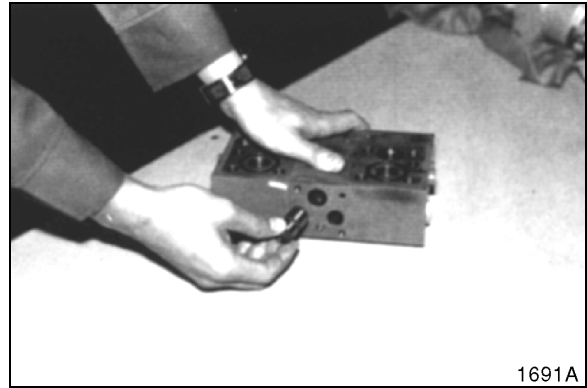

Figure 97
6. Install bushing. See Figure 97.